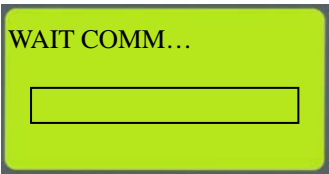

Figure 6-4 WAIT COMM...
shown in Figure 6-4.
- Step 7: After the users finish designing page 0, they can download the page. After the users press Esc on the TP04G series text panel used for a long time, menus will be displayed on the screen of the TP04G series text panel. After **1. D/L AP TP04G ← PC** on the screen of the TP04G series text panel is touched, "WAIT COMM..." will be displayed on the screen of the TP04G series text panel, as shown in Figure 6-4.